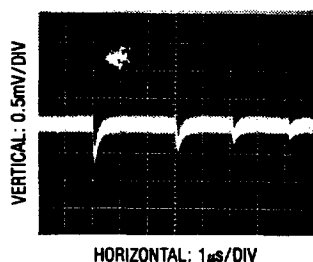

Figure 15. Adequate Reference Settling
1. Transients on the reference inputs caused by the capacitive switching currents must settle completely during each bit test (each 4 ACLK cycles). Figures 15 and 16 show examples of both adequate and poor settling. Using a slower ACLK will allow more time for the reference to settle. However, even at the maximum ACLK rate of 4MHz most references and op amps can be made to settle within the  $1\mu\text{s}$  bit time. For example the LT1027 will settle adequately or with a  $10\mu\text{F}$  bypass capacitor at  $\text{REF}^+$  the LT1021 can also be used.